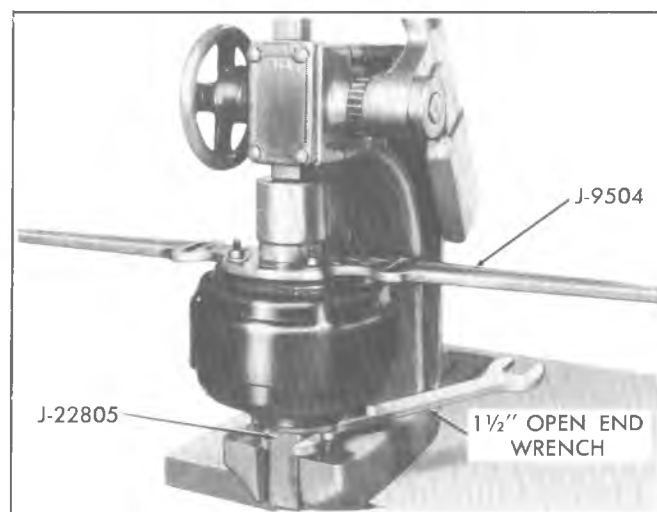

Fig. 5-4B--Holding and Separating Housings Using J-22805 and J-9504 in Arbor Press
12. Place power unit with Holding Fixture J-22805 in an arbor press with rear housing up and secure to plate of press by a suitable means of holding Tool J-22805 (fig. 5-4B). By using a 1-1/2" open end wrench on Tool J-22805 and allowing unit to turn against back of arbor press, press will hold unit from turning.
13. Place Spanner Wrench J-9504 over studs on rear shell (fig. 5-4B). Use three washers and nuts to attach wrench to housing. Use a suitable piece of pipe of approximately two inches I.D. and approximately three inches in length. Place over plastic diaphragm plate hub. Place a piece of flat stock steel over end of pipe and press
on arbor press plate by a suitable means (fig. 5-4B).